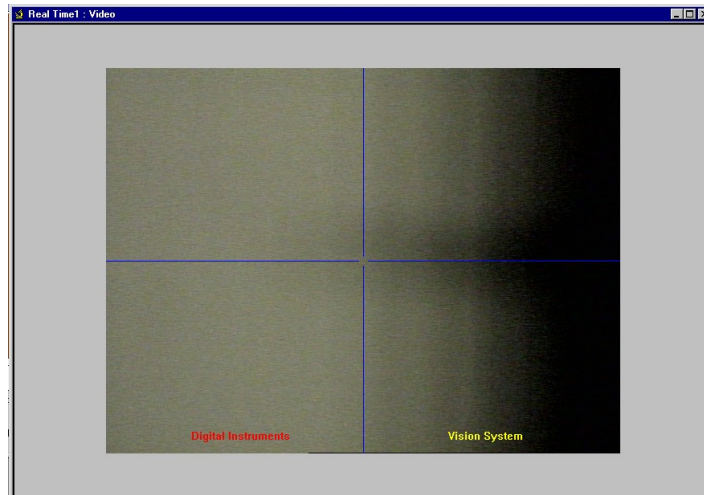

Figure 11: the video window
- the "video" gives a real time view of the image received by the optical microscope (Figure 11).